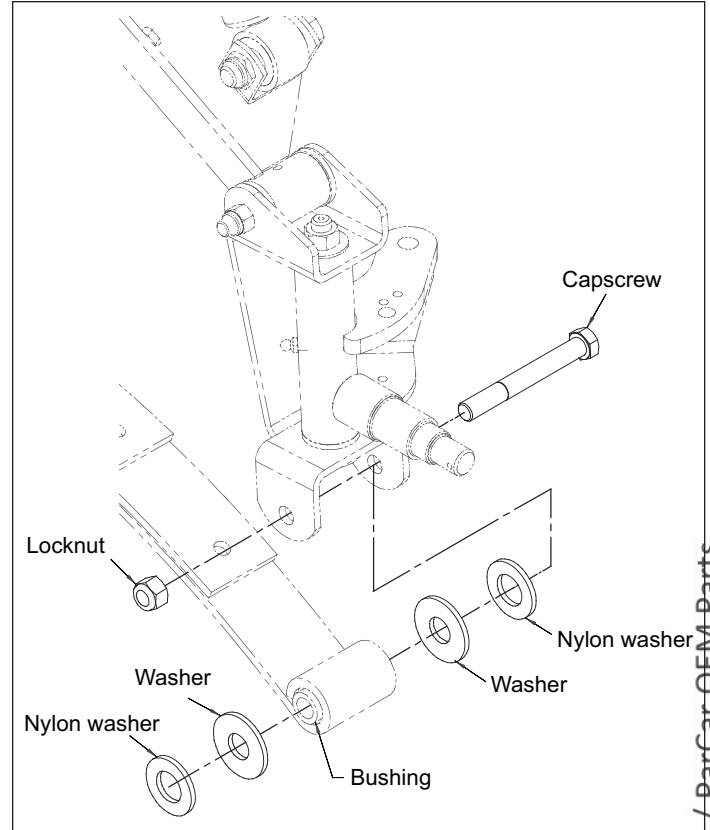

Figure 6-8. Replacing Leaf Spring Bushing
2. Remove and discard nut and bolt securing kingpin to leaf spring (Figure 6-8).
2. Remove and discard nut and bolt securing kingpins to leaf spring (Figure 6-8).
5. Re-install kingpins to leaf spring using nylon washers and new nuts and capscrews (Figure 6-8). Torque to 40 ft. lbs. (54 Nm).